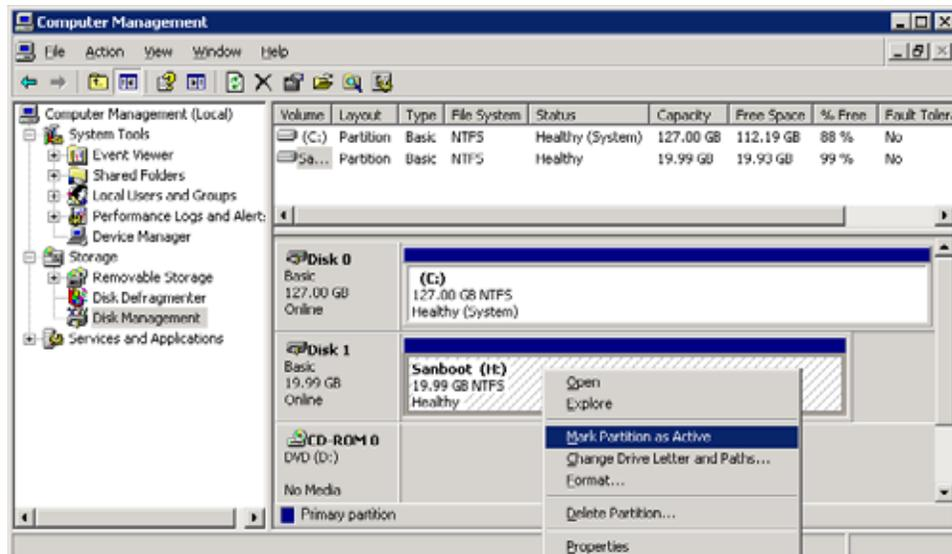

Figure 7 Server Manager — Marking Partition Active
Step 12 Right-click the newly created volume and select “Mark Partition as Active” as shown in Figure 7.